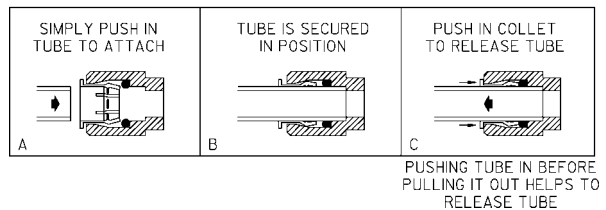

FIG. 5
7. Revise the water outlet line to a ¼" tube connection. The ¼" tube connection must be round and free of surface defects (solder, cuts, etc.). Any surface defects will obstruct the ability of the quick connect fitting to seal. Insert the straight end of the ¼" tube into the quick connect connection. Refer to figure 5 for details on how the Guest connection functions.